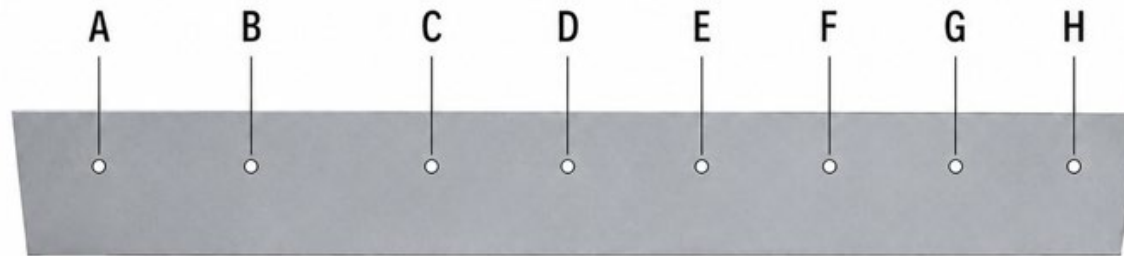

Figure 3
- Lay “L-shaped” template (Figure 3) on top of parapet wall to mark locations for wall mount bracket drill holes